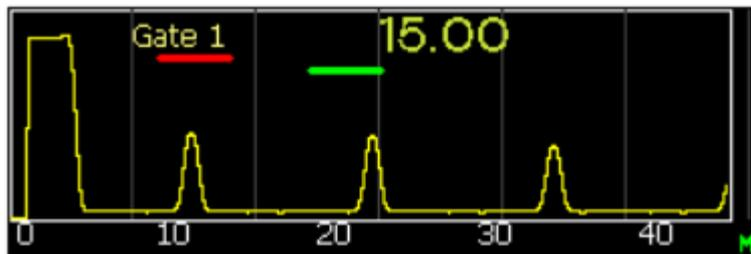

Figure 3.4 – Setting the position of the 1 (red) gate (above the bottom signal)
- Gate 1, Gate 2 – change the position of gates depending on the selected thickness measurement mode: 1 gate (red) should be above the first bottom signal (Figure 3.4) or